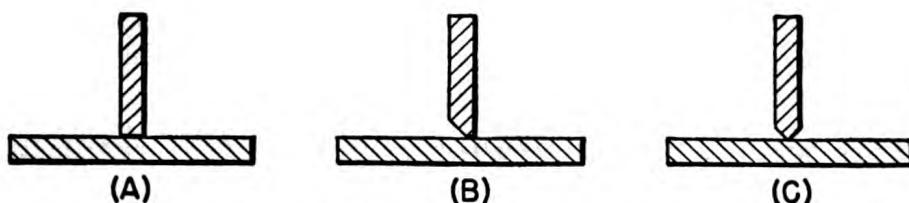

Figure 27.—Types of tee joints.
The PLAIN TEE JOINT (*A*) of figure 27 requires no preparation other than cleaning the end of the vertical part, and the surface of the horizontal part. The weld is made at the base of the vertical part, from both sides, so that heat penetrates into the intersection, or root, and is called a "fillet"
If the parts are thicker than  $\frac{1}{2}$  inch you should bevel the end of the vertical part on both sides as in (C). Use a filler rod when you weld any of the tee joints shown in figure 27.